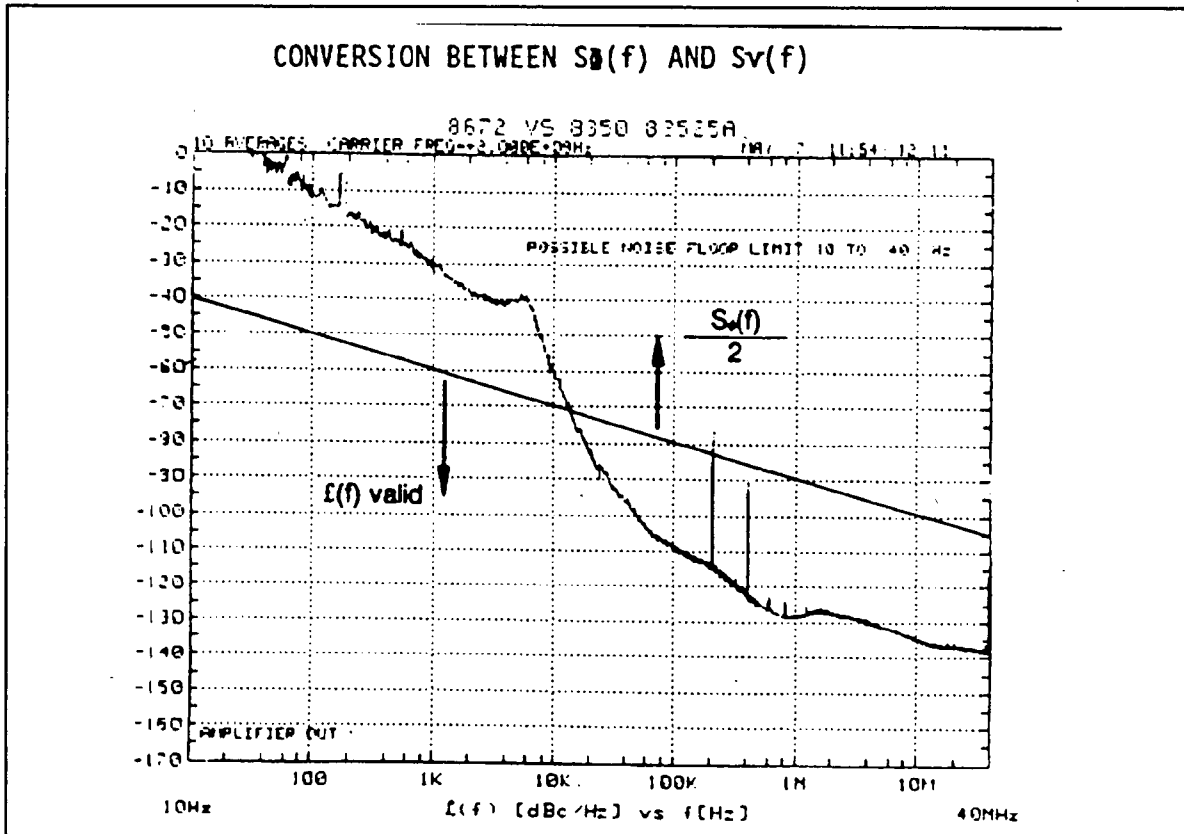

Figure 2-3. $S_{\phi}(f)/2$: 1/2 Spectral Density of Phase Fluctuation
Other than $S_{\phi}(f)$, the instability of a signal may also be represented with a plot of the spectral density of frequency fluctuations, $S_{\nu}(f)$. As illustrated below $S_{\nu}(f)$ is equal to $f^2 \times S_{\phi}(f)$ because $\nu(t)$ is the derivative of $\phi(t)$. These two graphs are from the same data with figure 2-3 a square root of $S_{\nu}(f)$. The graph of the square root of $S_{\nu}(f)$ indicates the power spectral density of the frequency modulation (FM) noise on the signal. Such a measurement of the spectral density of the FM noise versus the offset from the carrier is be very useful in the design of an FM system.